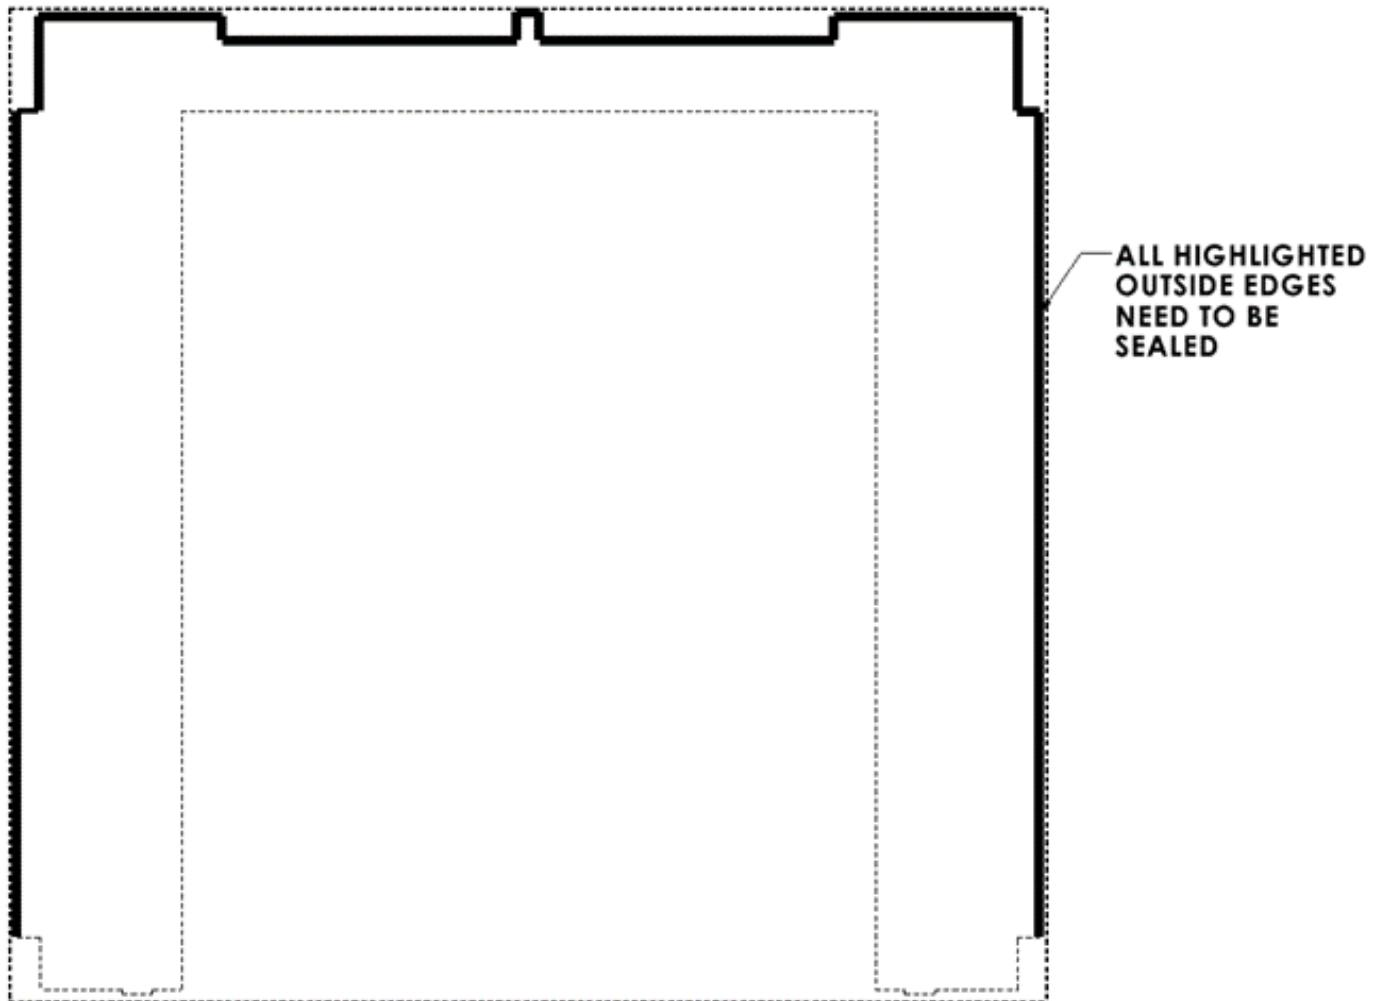

FIGURE 18
**10. SEAL PERIMETER:** Apply sealant to all outer edges (Figure 18). Vulkem® 116 is our recommended sealant for best results.